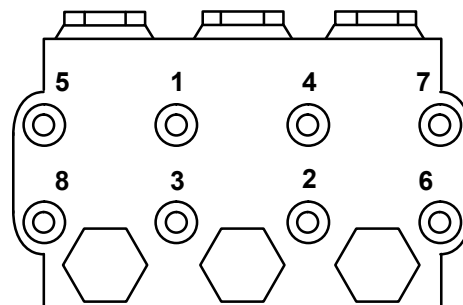

Figure 4
8. Install the capscrews and washers finger–tight. Torque the screws to 21.7 ft–lb (29 Nm) following the tightening pattern (Figure 4). Uneven tightening may cause the manifold to bind or jam.